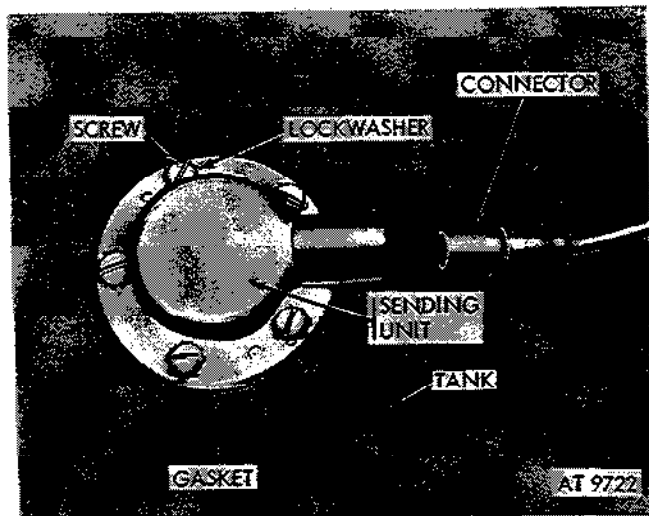

Figure 2-284. Remove fuel level sending unit.
(2) Separate the connector at fuel level sending unit (fig. 2-284).
(3) Remove five screws and lockwashers retaining the fuel level sending unit to fuel tank (fig. 2-284).
(4) Lift fuel level sending unit out of fuel tank and discard gasket (fig. 2-284).